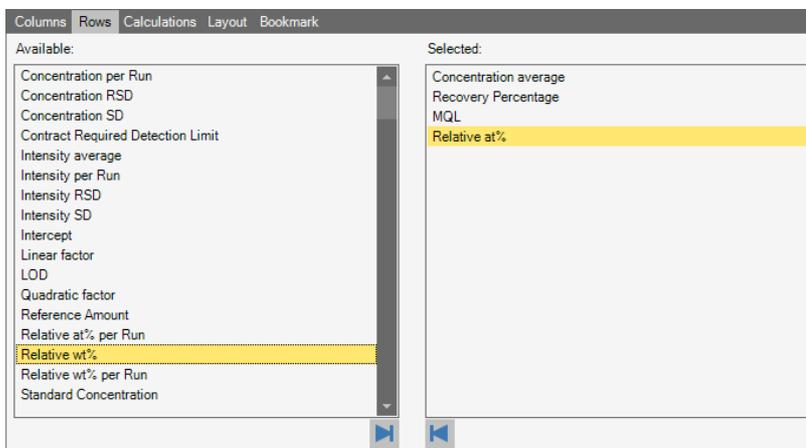

Figure 8-5. Selecting predefined calculation traces
1. Select **Rows** from the category tabs (2 in Figure 8-4). Double-click each item of interest (for example, *LOD*, *MQL*, *Relative at%*, *Relative wt%*) to move it from Available to Selected, see Figure 8-5.
2. The items selected in Figure 8-5 are printed in the Report as follows.